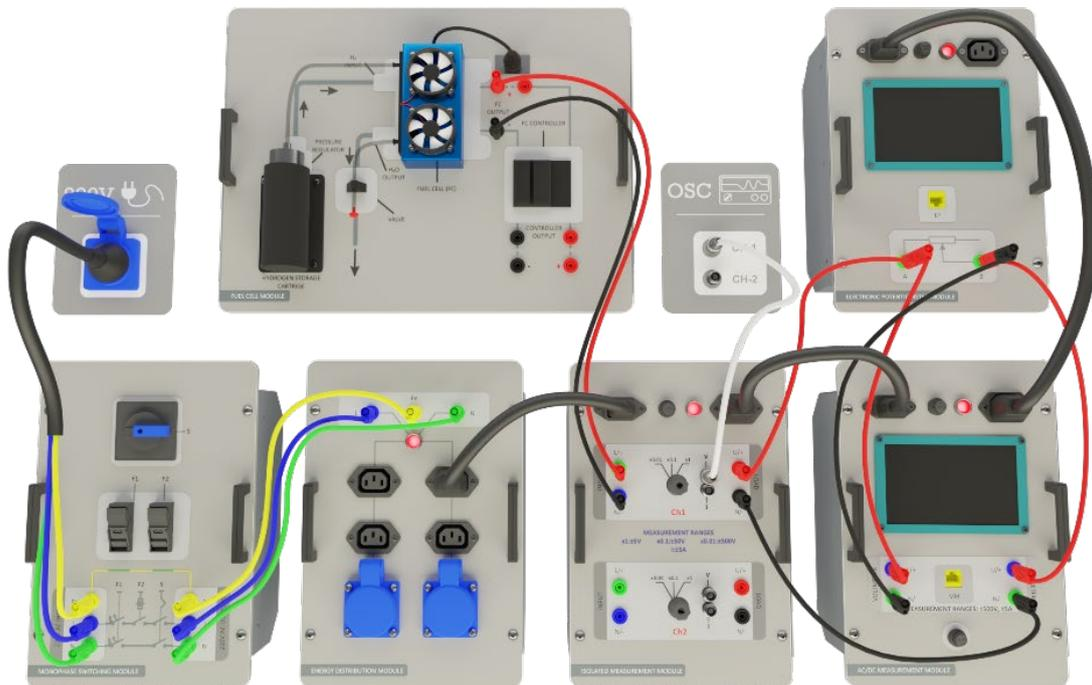

Figure-78. Installation Image of Examination of Hydrogen Fuel Cell Output Voltage Under Load with Oscilloscope
1. Connect the setup as illustrated in Figure-78. Make sure that the hydrogen battery is fully charged before use to avoid obtaining inaccurate results.
5. Start with a resistance of 1000Ω on the potentiometer. Gradually decrease the resistance according to the data specified in Table-59. As you adjust the potentiometer, record the voltage and current values on the AC/DC Measurement Module (MM).